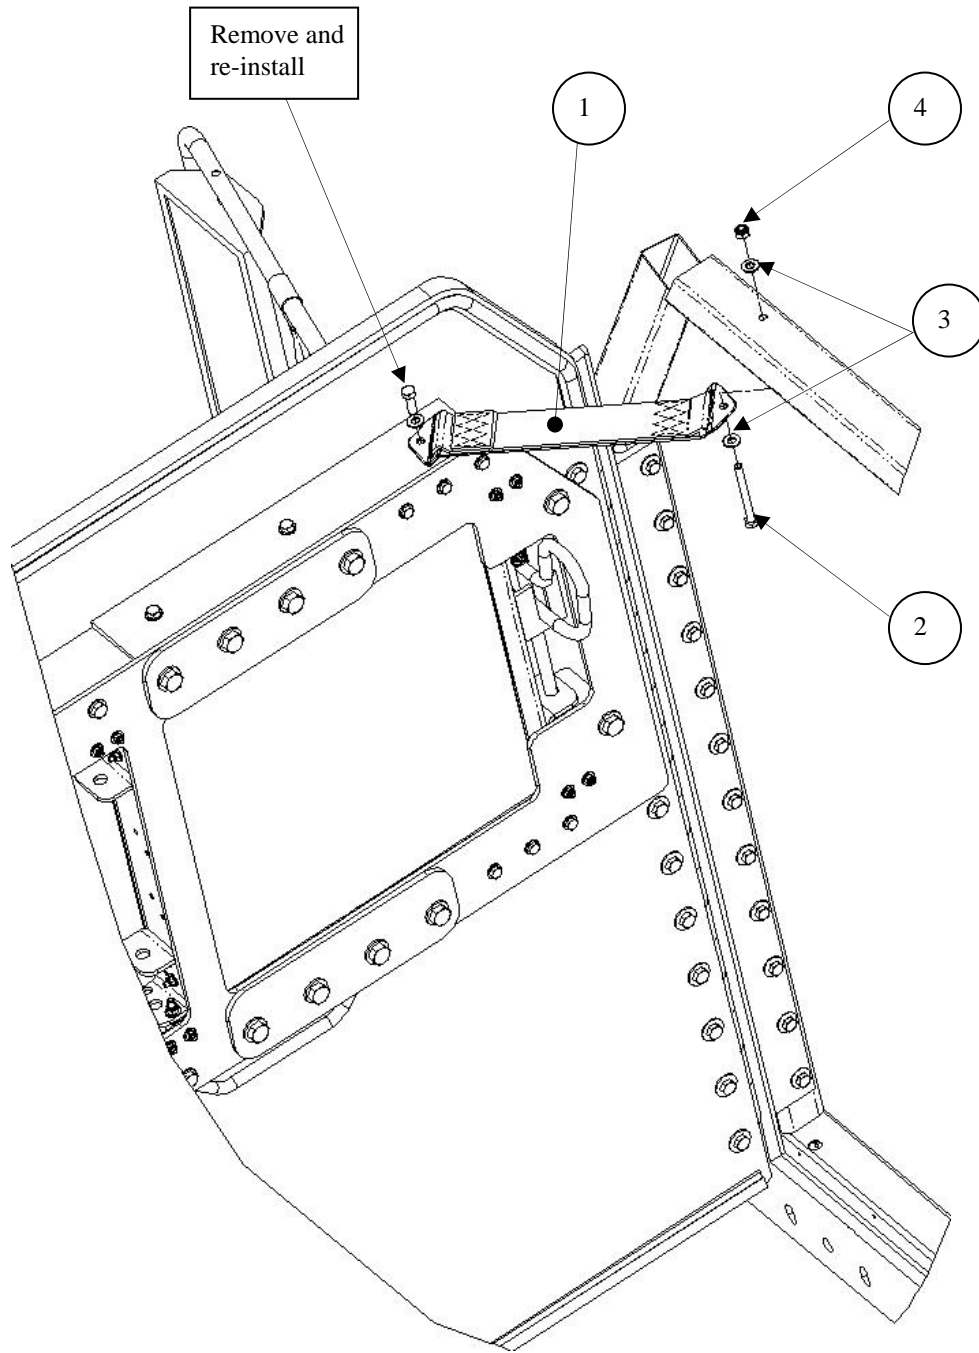

Figure 3-81. Door Strap Assembly Installation.
5. Install door strap assembly as follows (see Figure 3-81):
- a. Remove one existing bolt and washer from top of door as shown in Figure 3-81.
- b. Install door strap assembly (1) onto door and secure to door with one bolt and washer removed in previous step. Torque bolt to 13 lb-ft.
- c. Locate and drill one  $\varnothing 11/32$ -inch hole into door opening frame as shown in Figure 3-81.
- d. Secure loose end of door strap assembly (1) to door opening frame and secure with one bolt (2), two flat washers (3), and one locknut (4). Torque locknut to 18 lb-ft.